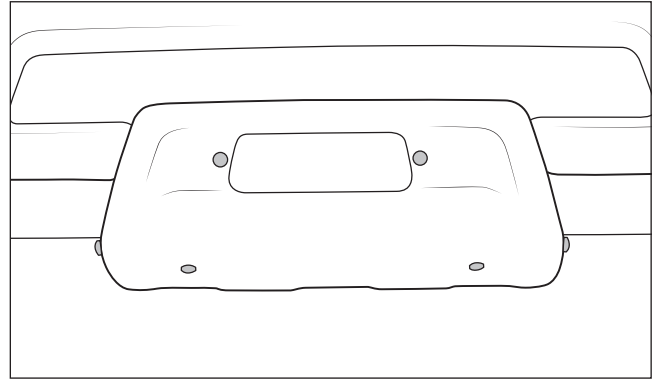

Figure 2
- B. Remove the 2 M10 bolts in middle of Front Bumper Skid (fig. 2).
- C. Remove the 4 torx bolts from bottom and side of Front Bumper Skid (fig. 2).